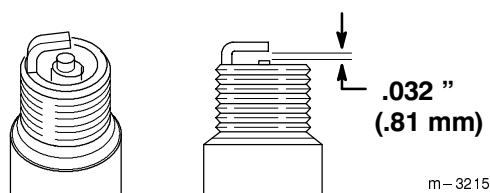

Figure 22
5. Set the spark plug gap (Fig. 22) between the electrodes to .032 inches (.81 mm).